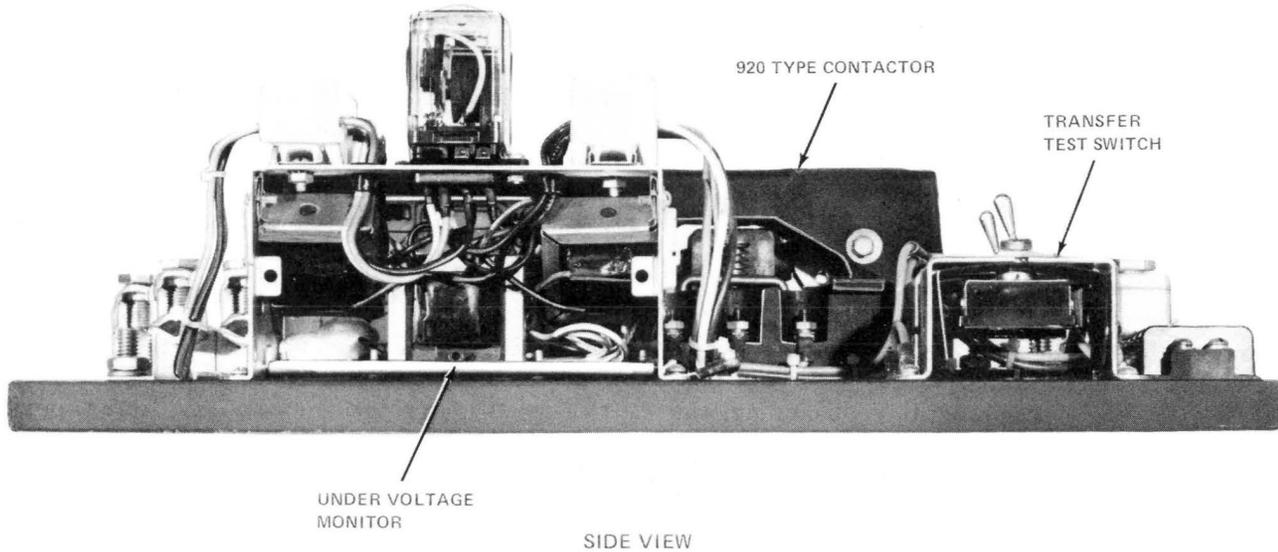

Fig. 6—Side View of the KS-5189-03 (New Version)
(1) The movable and fixed contacts may be readily replaced after taking out the associated screws. In replacing, be certain to put back the four bushings and insulating shims on the crossbar.
(2) Line up the contacts by adjusting the movable contacts on the crossbar with the screws loose. Tighten the screws and close the contacts by hand. Note that the contacts close in the following sequence: (1) carbon contacts, (2) auxiliary metal contact, and (3) brush contact. They should open in the reverse order.
4.06 *♦The Undervoltage Monitor:* The new emergency lighting relay switch KS-5189-03 has been designed with an undervoltage monitor. (See Fig. 6.) When replacing the voltage monitor, replace it with either Catalog 214A293 for 3-phase current or Catalog 214A304 for single-phase current, whichever matches the contactor on that unit. The undervoltage monitor should be replaced when there are problems.